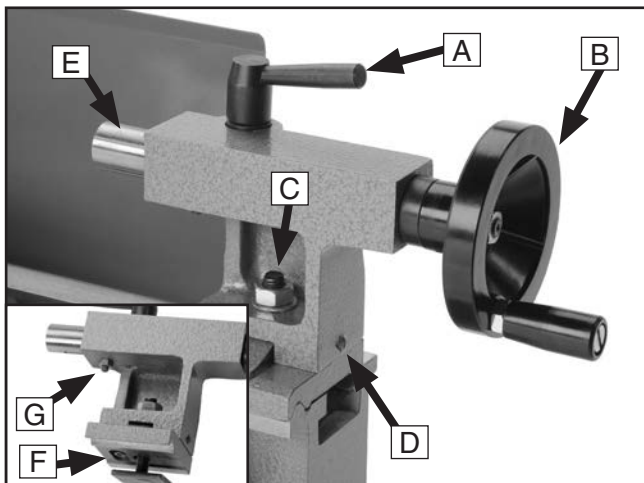

Figure 18. Tailstock controls.
Familiarize yourself with the tailstock components shown in **Figure 18**.
1. Using a 17mm wrench, loosen the tailstock lock nut shown in **Figure 18**.
Changing the tailstock offset is a common method for turning tapers. The offset cap screw is located under the tailstock and the tailstock must be removed from the bed for this adjustment. Therefore, precision tolerances for this type of work will require trial-and-error adjustments (**Figure 18**).